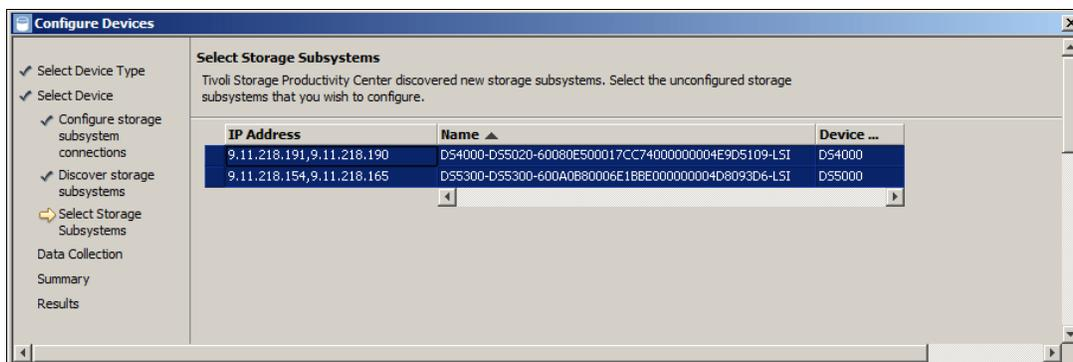

Figure 9-17 Select storage subsystems to configure with TPC
6. Select the storage subsystems that you want to configure. Any storage subsystems that were added in previous steps are automatically selected (Figure 9-17). Deselect storage subsystems that you do not want to configure and proceed to **Next** page.